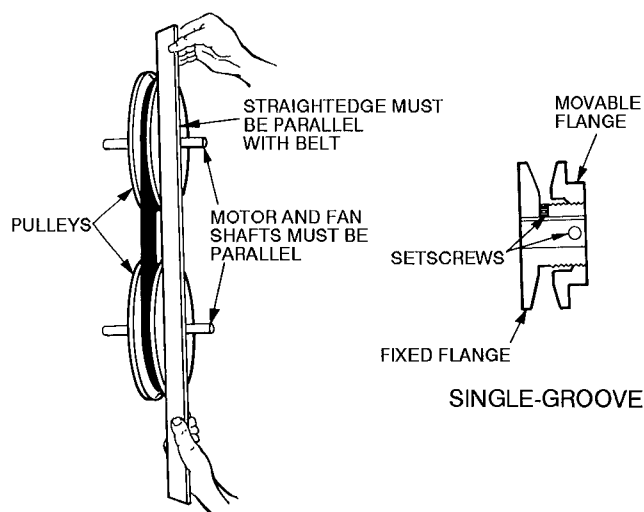

Fig. 31 — Evaporator-Fan Pulley Adjustment
3. Loosen movable pulley flange setscrew (see Fig. 31).